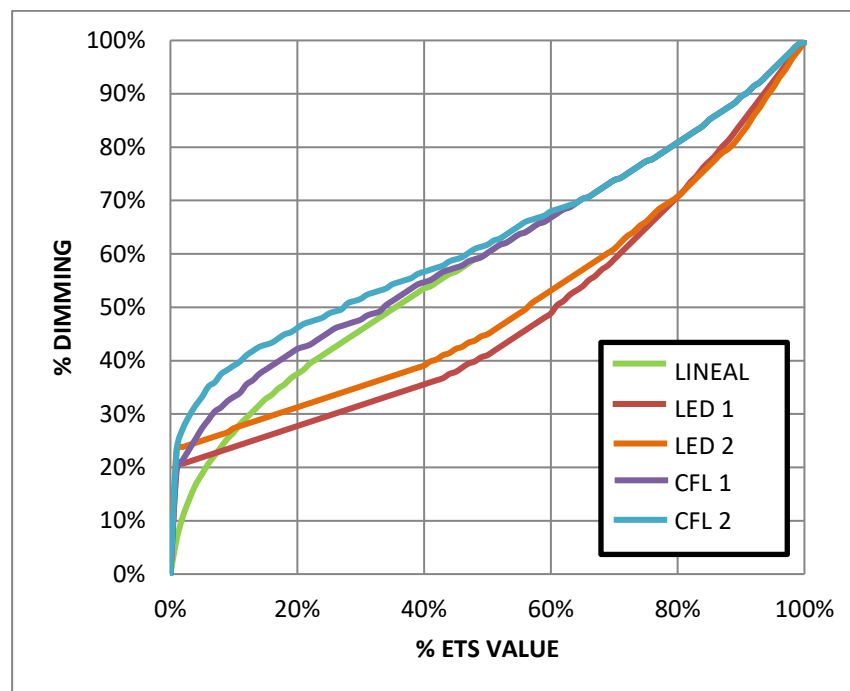

Figure 9 Dimming Patterns for LED and CFL loads.
- **Dimming Pattern**: [Linear / Curve 1 / Curve 2]. Figure 9 shows the different regulation curves for each load type.